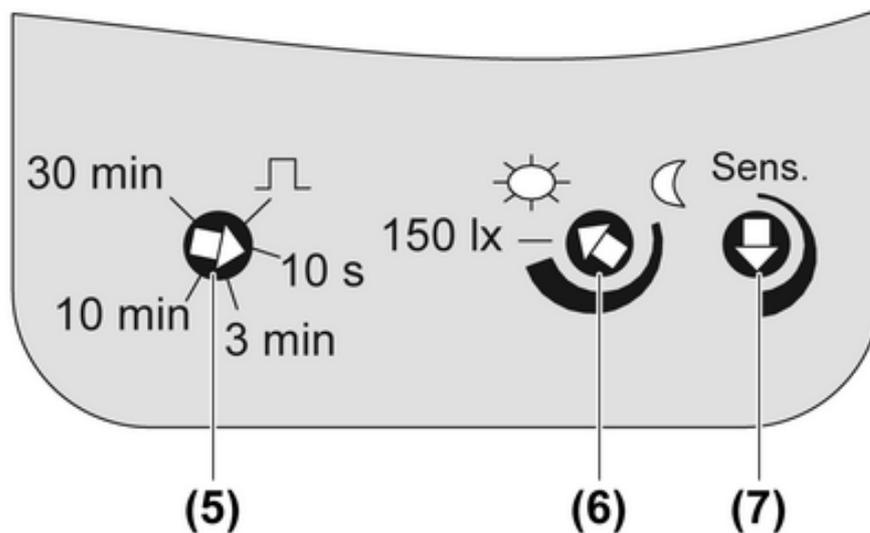

Figure 9: Adjusters on the rear
- Make the test settings (Figure 9). Run-on time adjuster: 10 s; Brightness adjuster on ☀ icon; Adjuster **Sens.** to max.
- Turn the adjuster (6) to the required position (Figure 9).
**i** To make the setting for stairwells according to DIN EN12464-1, 2003-3, turn the adjuster (6) to the **150 Lux** mark.